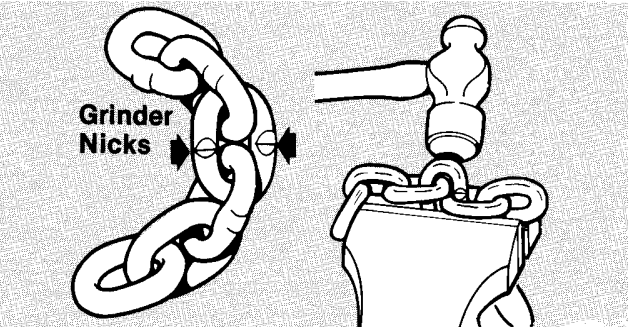
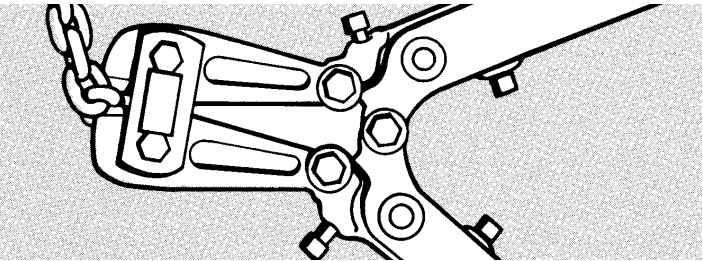

FIGURE 22. Cutting Chain by Nicking
FIGURE 23. Cutting Chain with a Bolt Cutter
- (1) Use a grinder and nick the link on both sides (see Figure 22), then secure the link in a vise and break off with a hammer.
- (2) Use a 7 inch minimum diameter by 1/8 thick abrasive wheel (of type recommended by wheel supplier) that will clear adjacent links.
- (3) Chain may also be cut using a bolt cutter (see Figure 23) similar to the H.K. Porter No. 0590MTC with special cutter jaws for cutting hardened chain (1 inch long cutting edge).